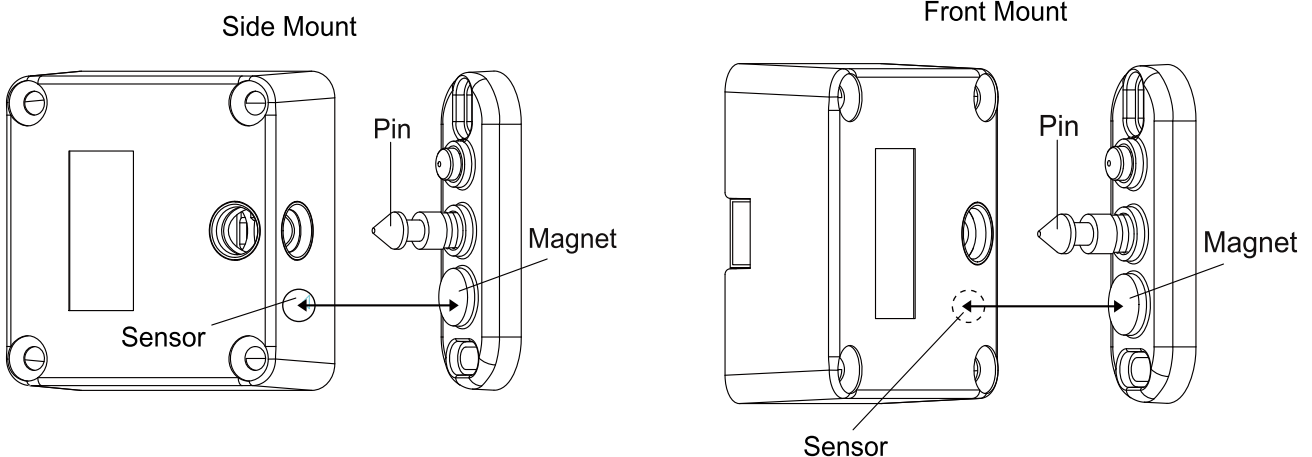

Figure 2 Alignment of Magnet and Door Status Sensor
4. Make sure the magnet and door status sensor are aligned so that door status monitoring is enabled. (See Figure 2)